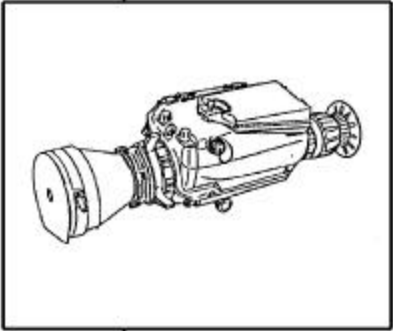

Figure G-1. Heavy weapon thermal sight.
The AN/PAS-13 (V3) heavy weapon thermal sight (HWTs) (Figure G-1, page G-2) is a silent, lightweight, compact, durable, battery-powered, infrared imaging sensor that consumes little battery power. The self-contained infrared (IR) imaging sensor in this sight helps the firer acquire the target in low visibility conditions.
a. **Components.** The HWTs has two functional groups: the basic sensor and the telescope. See Figure G-1, page G-2, for equipment data.